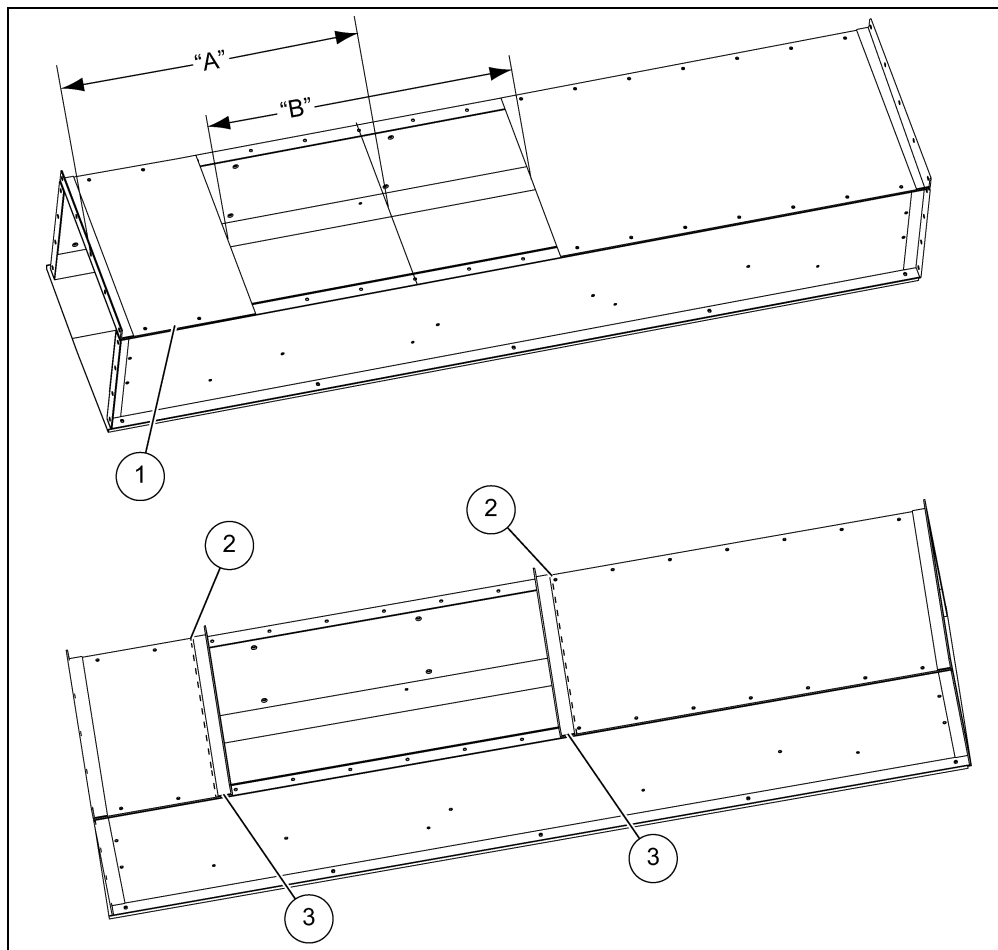

Figure 3B
1. Start by locating the center of the proposed discharge location. Dimension "A" shown in Figure 3B.
5. Weld the extra angle iron flanges (3) provided with the gate to each trough bottom cut, as shown in Figure 3B, so that the gate can be bolted to each side. Stitch weld edges 51 mm (2") long with 38 mm (1-1/2") spacing.